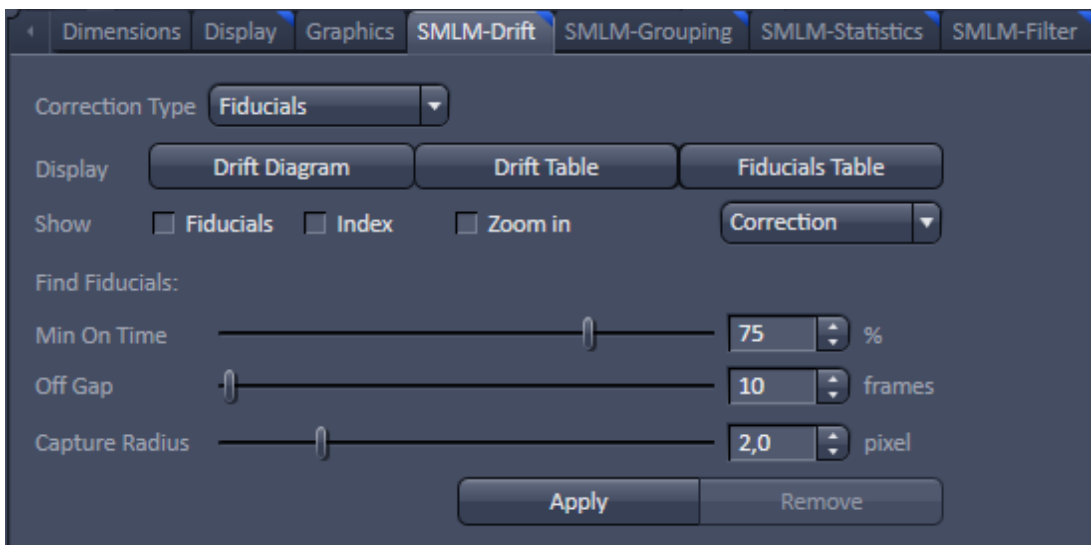

Fig. 602 SMLM-Drift view control tab of the SMLM view tab in Show all mode – Fiducials selected as Correction type
- **Fiducials**: drift correction will be performed on fiducial markers in the image (Fig. 602)